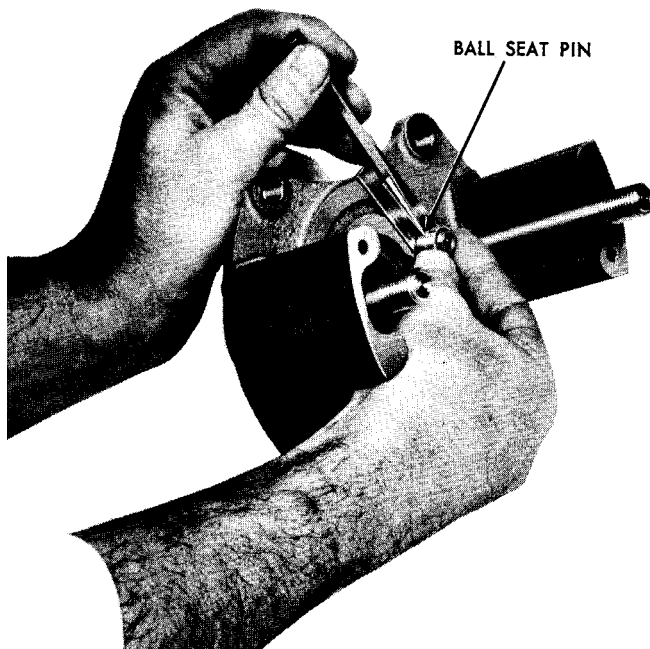

Figure 16. Removing trip piston assembly (b)
- B. Push ball seat pin out to disengage spring. See Figure 16.